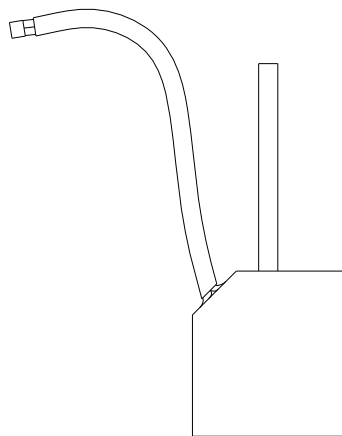
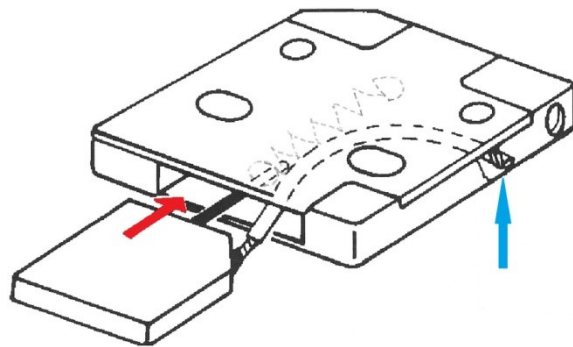

Fig.29 Recommended forming of the lead before installation
Fig.30 Insert Brush into module body
- F. For easier installation form the lead of the Brush per fig.29. Then insert Brush into module body per fig.30. Ensure that the guide rod is in the spring and at the same time that the lead protrudes through the lead exit hole – see blue arrow in the fig.30.